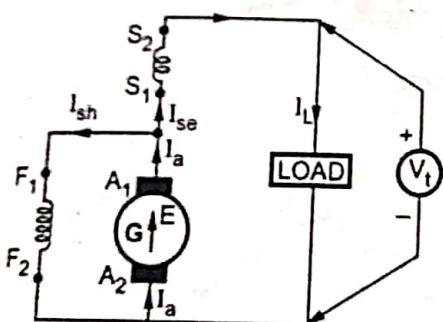

Fig. Q.37.5 Short shunt compound generator
**Q.37.5 Short shunt compound generator :** In this type, shunt field winding is connected, only across the armature, excluding series field winding as shown in the Fig. Q.37.5.